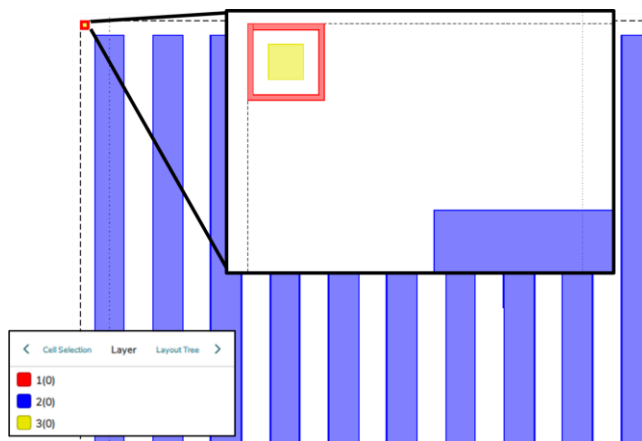
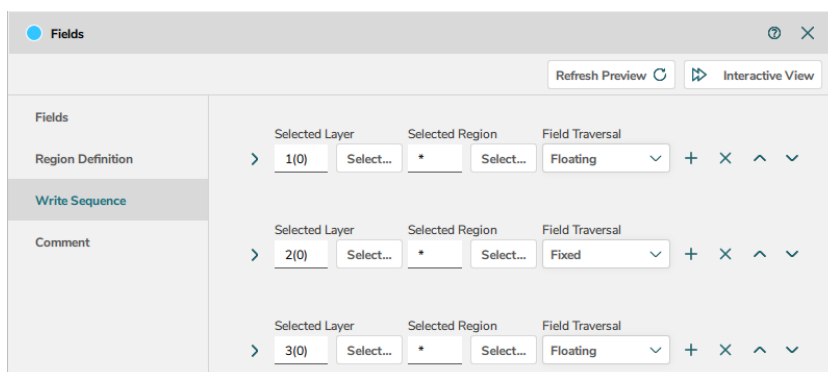

Figure 10. Layout to quantify drift suffered during exposure. Includes a box in a box marker and the pattern of interest.
Figure 21. *Write Sequence* set in the *Fields* module for the layout in Fig. 10. Layers name is used to define the *Field Traversal* condition.
A common design to quantify tool drift, it is a layout that starts and finishes patterning in the same area. Figure 10 shows a blue grating (pattern of interest) and a red with yellow boxes (patterns to track tool drift). To run such a test, the red box is patterned at the beginning, followed by the grating writing and finally the yellow box.
For the layout shown in Fig. 10, the *Fields* module is set to obtain the same result as using multiple *Export* modules. Here, the three regions are differentiated by their layer name; therefore, the fields ordering are set according to the layer name. Figure 21 exhibits the *Write Sequence* tab where each layer has *Floating* or *Fixed* field sorting. Moreover, the sequence is established as such that layer 1(0) is patterned first (red box in Fig. 10) and layer 3(0) is patterned last (yellow box in Fig. 10).